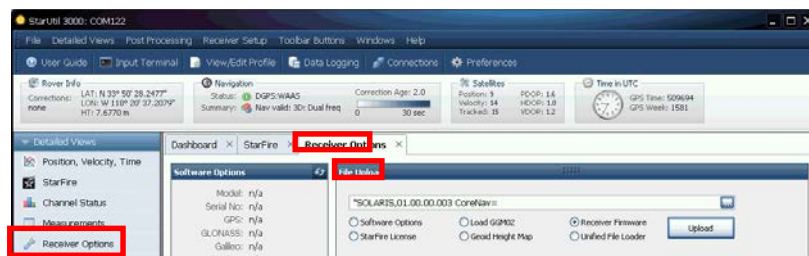

Figure 18: Receiver Options Tab
47. Click *Receiver Options* on the *Detailed Views* menu to open the *Receiver Options* tab (see Figure 18).